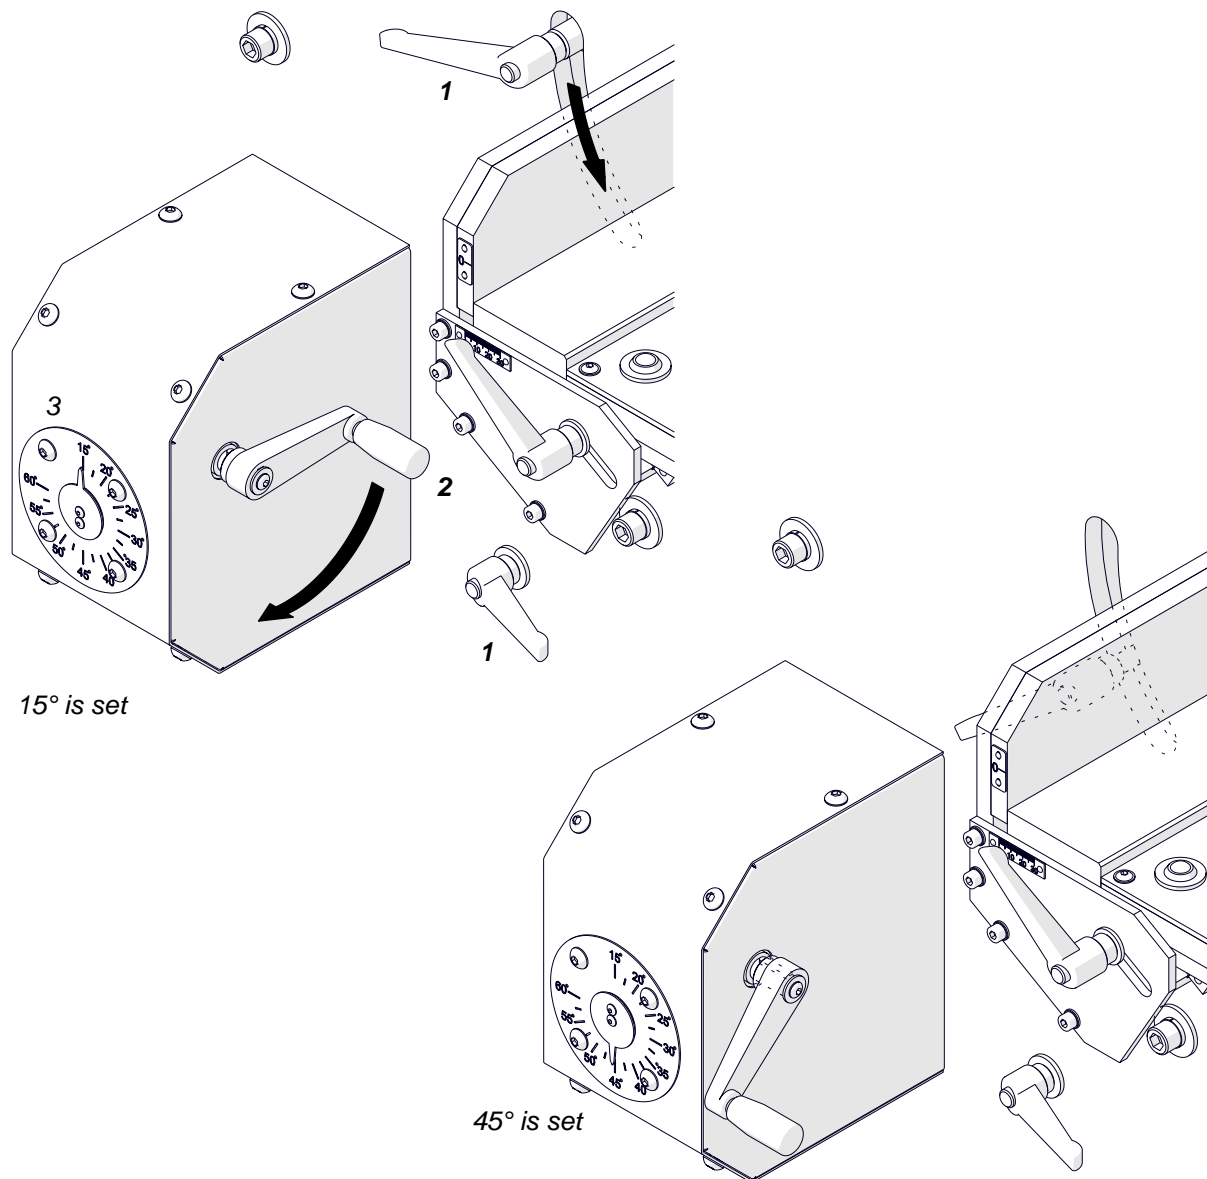

Fig. 7. Setting the bevel angle
To set the bevel angle (Fig. 7), unlock the levers (1). Then, use the crank (2) to rotate the milling unit so that the scale (3) shows the required angle. Lock the levers in this position.